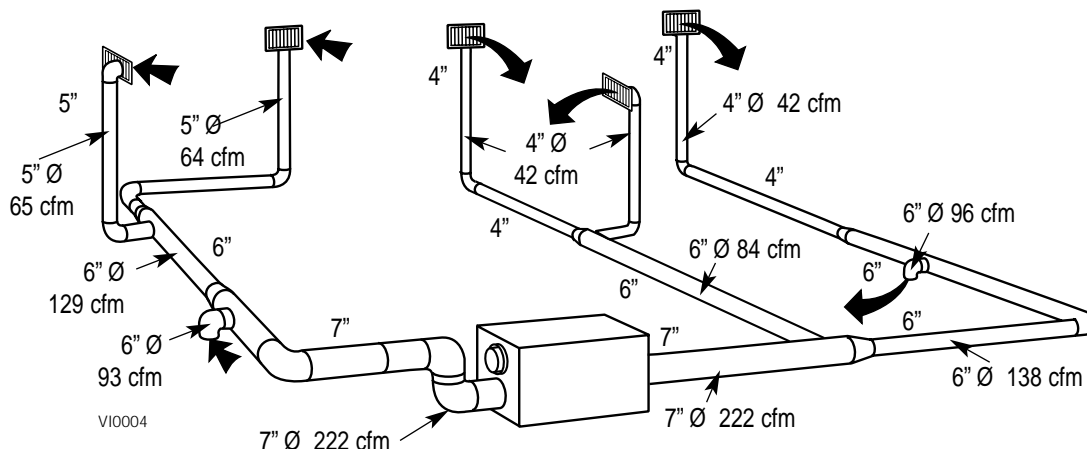

figure 8
6.3.2 Example of a design for a fully ducted system for a unit having a high speed performance of 222 cfm (See figure 8).